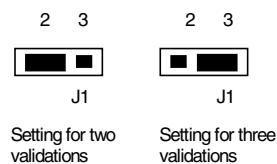

FIG. 13 IR validation jumper pin settings
1. Locate jumper pins J1 on the circuit board (FIG. 13).